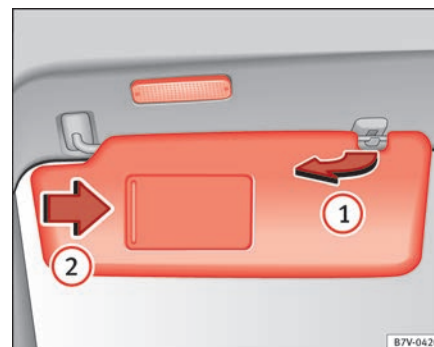

Fig. 64 Sun visor.
- The sun visor can be pulled out of its mounting and turned towards the door  $\Rightarrow$  fig. 64 ①.